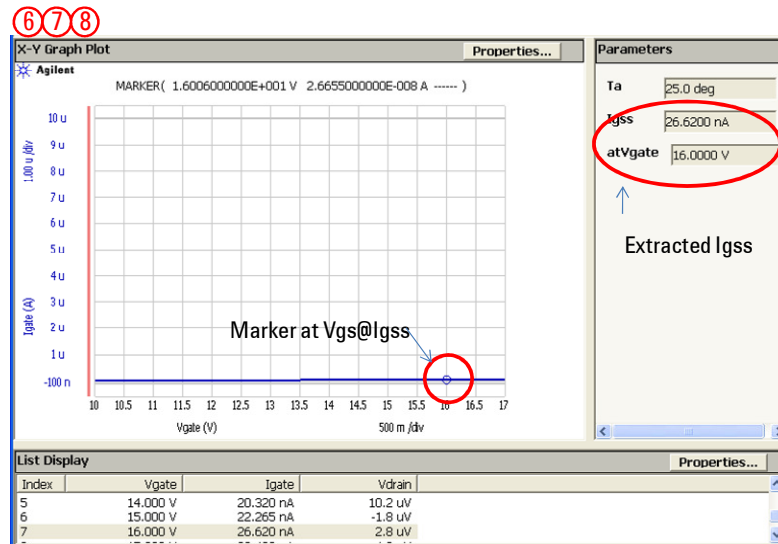

Figure 3-30. Example of Igss Application Test results.
Step 8. You can see the Igss graph in figure 3-30.
Figure 3-30 plots Igss gate-to-source leakage current versus gate voltage. Marker is automatically located to the specified Vg@Igss point as shown in marked by circles on the figure. Extracted Igss and the gate voltage are shown in the Parameters display field.